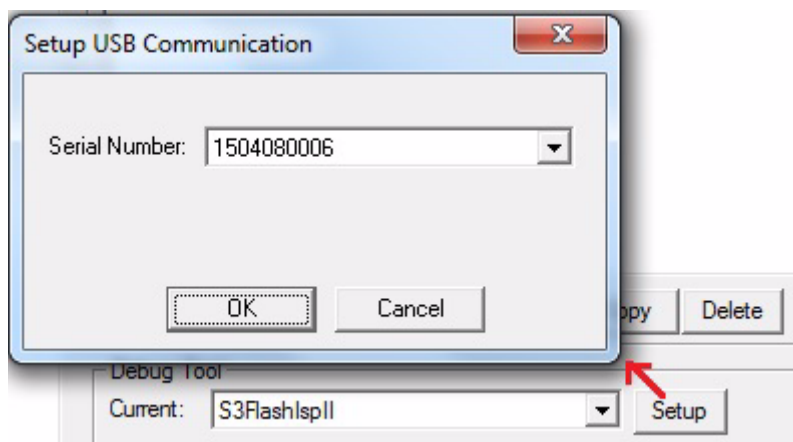

Figure 9. The Setup USB Communication Dialog
- After selecting **S3FlashIsplI** from the Debug Tool drop-down menu, click **Setup** to select the serial number of the S3 Flash ISP II you are using, as indicated in Figure 9. Click **OK** to close the Setup USB Communication dialog box.
► **Note:** The serial number you see on your screen will be different from the serial number shown in Figure 9.